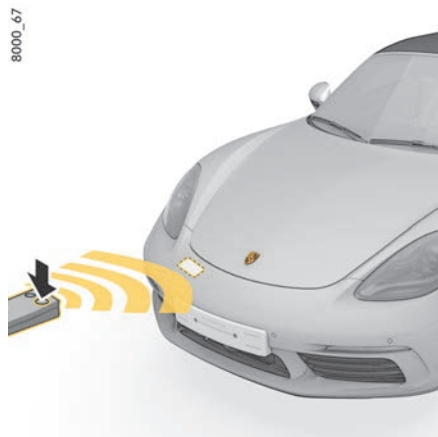

Fig. 92: Positioning the original hand transmitter in front of the vehicle
4. Hold the original remote control approx. 20 cm away from the marked position (Fig. 92) and press and hold the transmit button (for more than approx. 1 minute in some cases) until the vehicle's direction indicators flash on and off three times or the indicator light **A** on the overhead console starts flashing quickly. The vehicle's direction indicators flash three times and the indicator light **A** flashes quickly to confirm that the new signal has been programmed successfully.
4. Hold the original remote control approx. 20 cm away from the marked position (Fig. 92 on page 118) and press and hold the transmit button (for more than approx. 1 minute in some cases) until the vehicle's direction indicators flash on and off three times or the indicator light **A** on the overhead console starts flashing quickly.
3. Hold the original remote control approx. 20 cm away from the marked position (Fig. 92 on page 118) and press and hold the transmit button (for more than approx. 1 minute in some cases) until the vehicle's direction indicators flash on and off three times or the indicator light **A** on the overhead console starts flashing quickly. The vehicle's direction indicators flash three times and the indicator light **A** flashes quickly to confirm that the new signal has been programmed successfully.